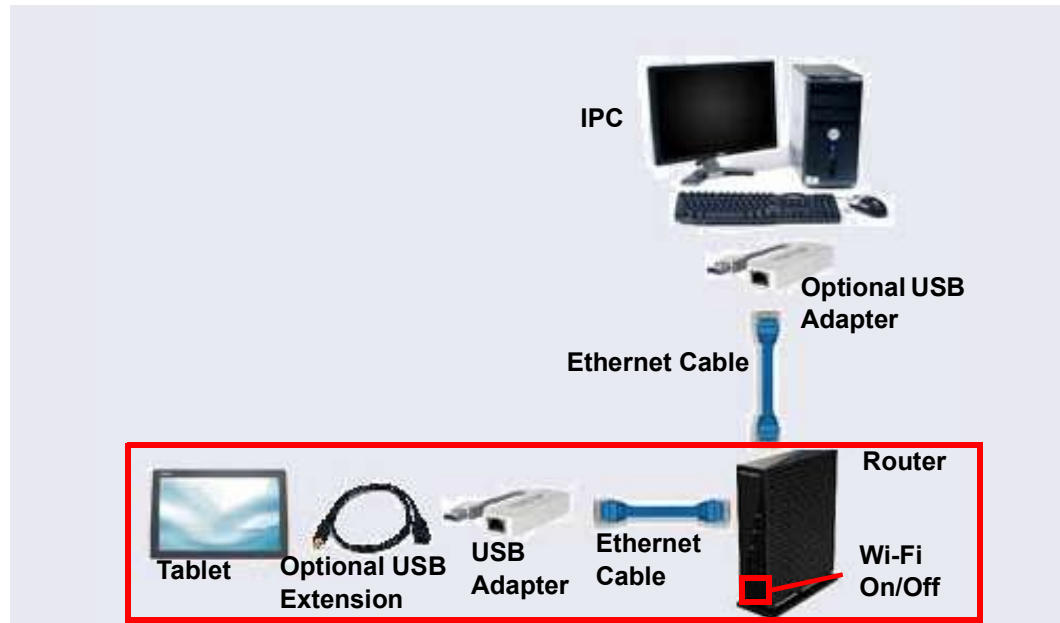

Figure 3-44. Ethernet Connections from the Tablet to the Router
3. Connect the Ethernet cable to the tablet, if it is not already connected. Because the tablet supplied in the Thermo Fisher Scientific tablet kit does not have a LAN port, the Ethernet connection uses one of the USB-to-Ethernet adapters provided in the Tablet Connectivity Kit to connect to the tablet USB port (see Figure 3-44). If necessary, use the USB extension cable (P/N 00302-99-00130) provided in the Tablet Connectivity Kit between the adapter and the tablet.